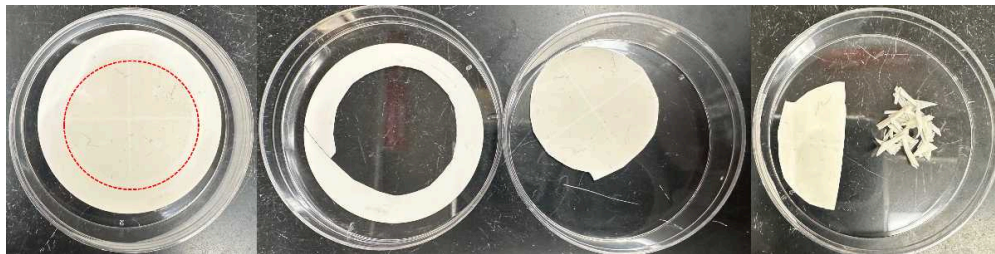

Figure 1. The examples of membrane trimming and cutting.
- 44 Trim the outer circle of the membrane that had no water sample flowing through off, discard the outer circle (see Figure 1).
- 46 Place 4 halves of the filter membranes from different filtrations of the same water sample in a new Petri dish and store the unused half membranes in the original Petri dish at -20 °C for future use (see Figure 1).
- 47 Use the forceps to stack the 2 half membranes, then fold the stacked halves into a smaller sector and cut it (smaller than 1 mm x 3 mm, see example in Figure 1) into the tube prepared in step 40 (Suggest collecting the 2 half membranes before PEG-8000 in tube A and the 2 half membranes from after PEG-8000 treatment in tube B).